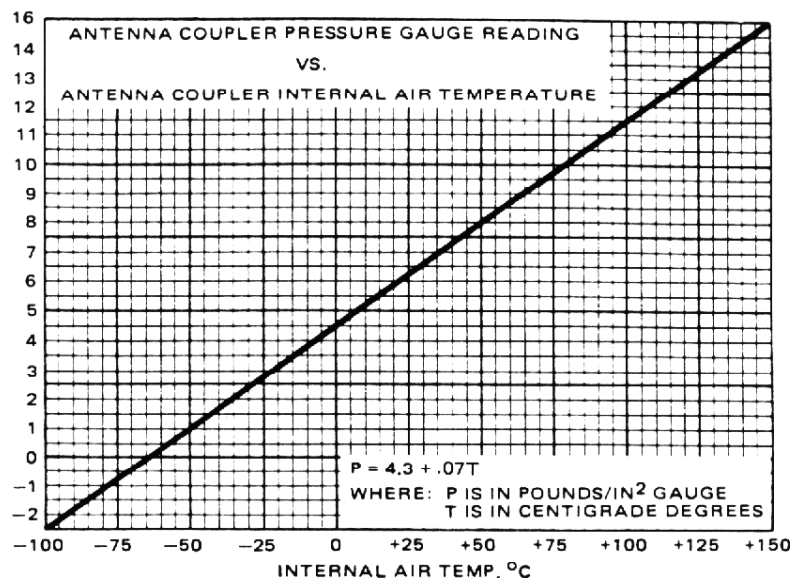

Figure 2-6. Coupler Charging Pressure Vs. Temperature
- e. Using the valve cap, depress the valve core, and exhaust the RF-601A/CU to 6 pounds/in2 (0.42 kg/cm2) gauge pressure indication. Replace the valve cap. (It is assumed that the ambient temperature, the internal temperature of the RF-601A/CU, and the internal temperature of the nitrogen gas tank is approximately 25°C. RF-601A/CU pressure gauge indicator will vary with temperature because of gas expansion/contraction. To find the correct gauge pressure at temperature other than 25°C, refer to the chart in figure 2-6.)
An RF-636 Dry Air Pump is available as an optional accessory. The pressure vs. temperature chart, figure 2-6, and all pressure readings given in paragraph 2.9.1 apply to dry air as well as dry nitrogen. For units with serial numbers below 431, the relief valve is a fixed pressure valve; with pressure set at 10 psig. Temporarily seal the valve with tape. Remove the core of the charging valve to relieve pressure. For units with serial numbers 431 or greater, the relief valve is adjustable and may be set for the desired pressure by rotating the adjusting cap clockwise to increase, or counterclockwise to decrease, the pressure. Loosen the lock nut and turn the adjusting cap completely clockwise.
Use the graph in figure 2-6 to determine the proper pressure for the case at its present ambient temperature, and bleed the coupler to that pressure by depressing the valve core on the charge valve. (At 25°C/77°F, pressure should be 6 psig.) The relief valve set at 10 psig will prevent excessive pressure if coupler temperature should become abnormal.